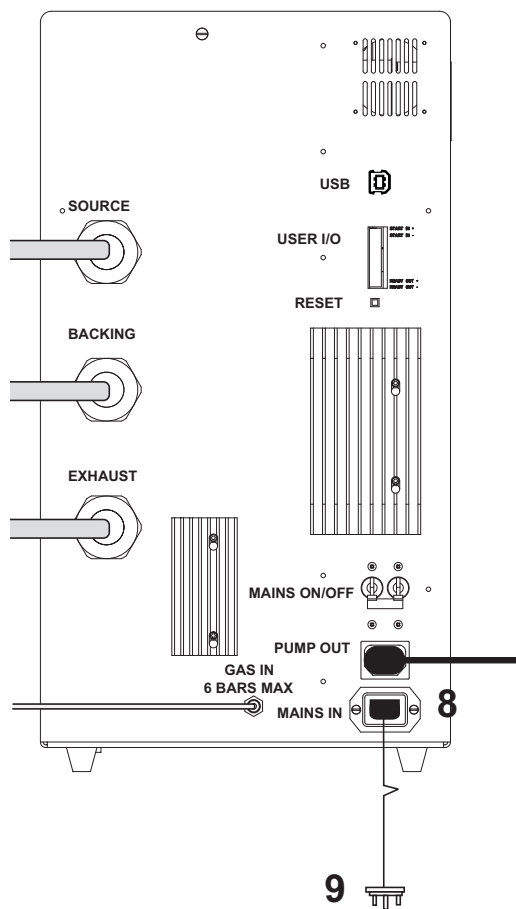

Figure 1-13. Power connection to the MSQ
2. Plug the other end into a suitable electrical wall outlet (see **Connection 9** in Figure 1-13).